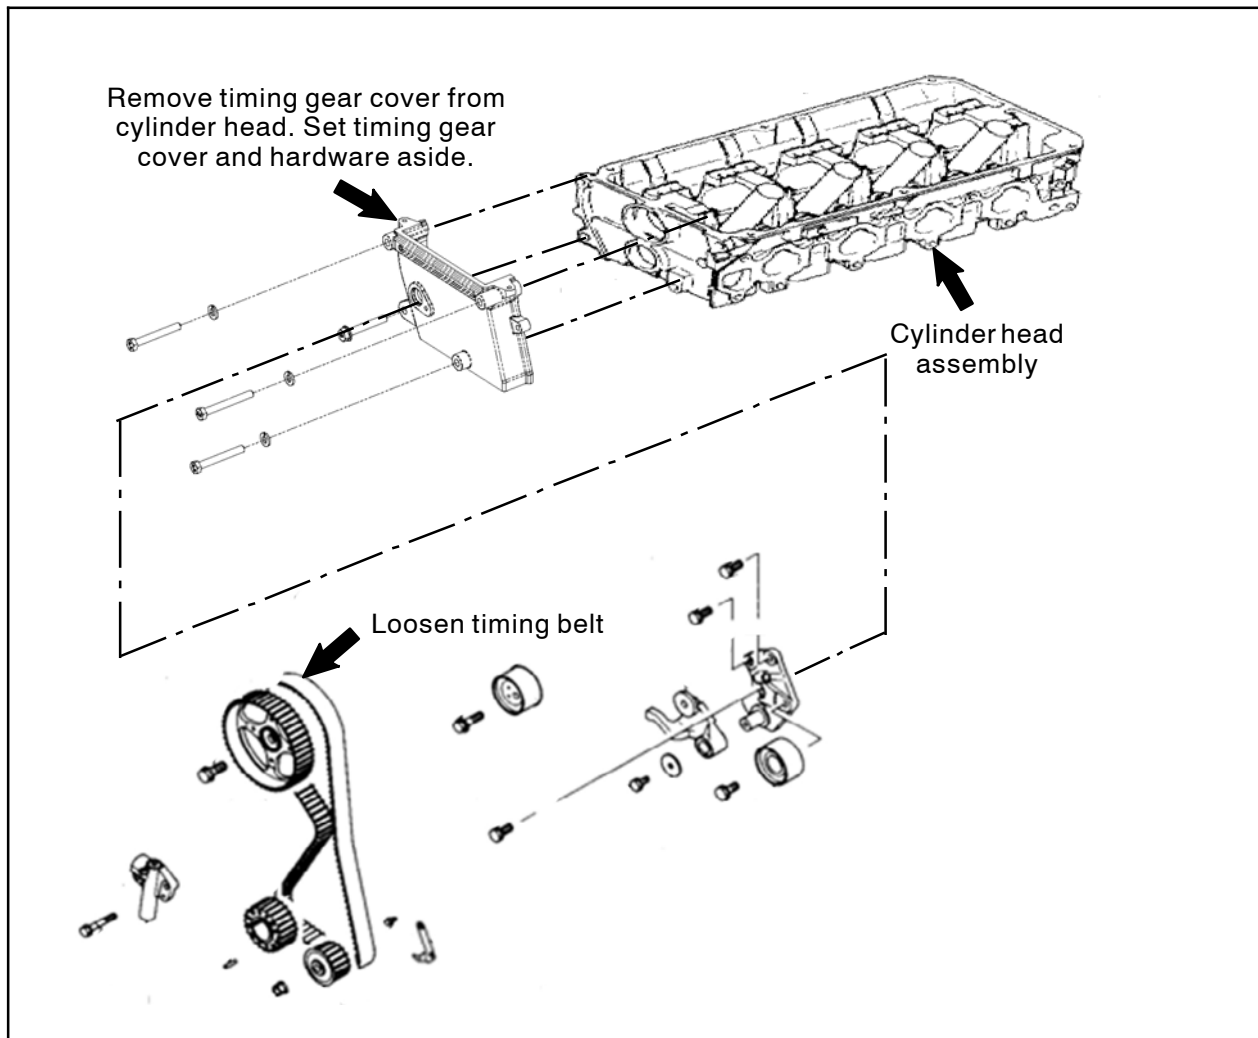

FIG. 8
6. Remove the timing gear cover from the cylinder head assembly. Set the timing gear cover and hardware aside. (Fig. 8)